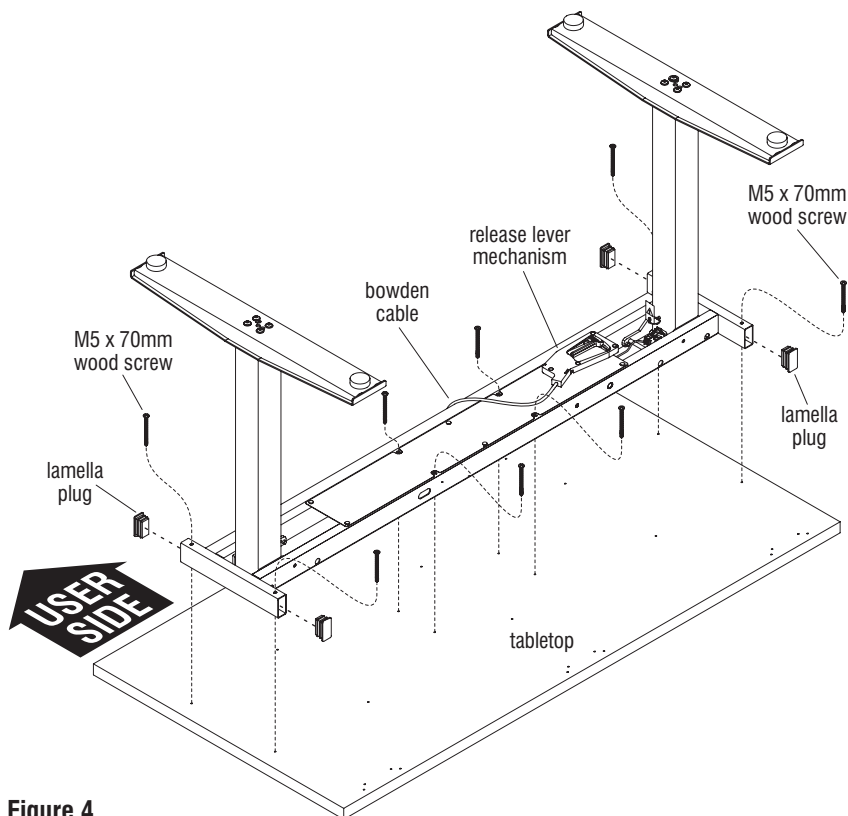

Figure 4
1. To avoid scratching the tabletop, place it upside down on a soft, protective surface (Figure 4).
2. Rest the release lever mechanism on top of the frame assembly as illustrated in Figure 4. Slide excess bowden cable into the frame assembly to prevent kinking of the cable when mounting frame assembly to the tabletop (Figure 4).
3. Position the frame assembly onto the center of the tabletop underside, making sure that the release mechanism on the frame assembly faces the user side. Align the eight mounting holes on the frame with the pre-drilled holes on the tabletop (Figure 4).
4. Attach the frame assembly to the pre-drilled holes in the tabletop using eight M5 x 70mm screws (Figure 4).
5. Press four lamella plugs into the open ends of the frame near the columns as illustrated (Figure 4).